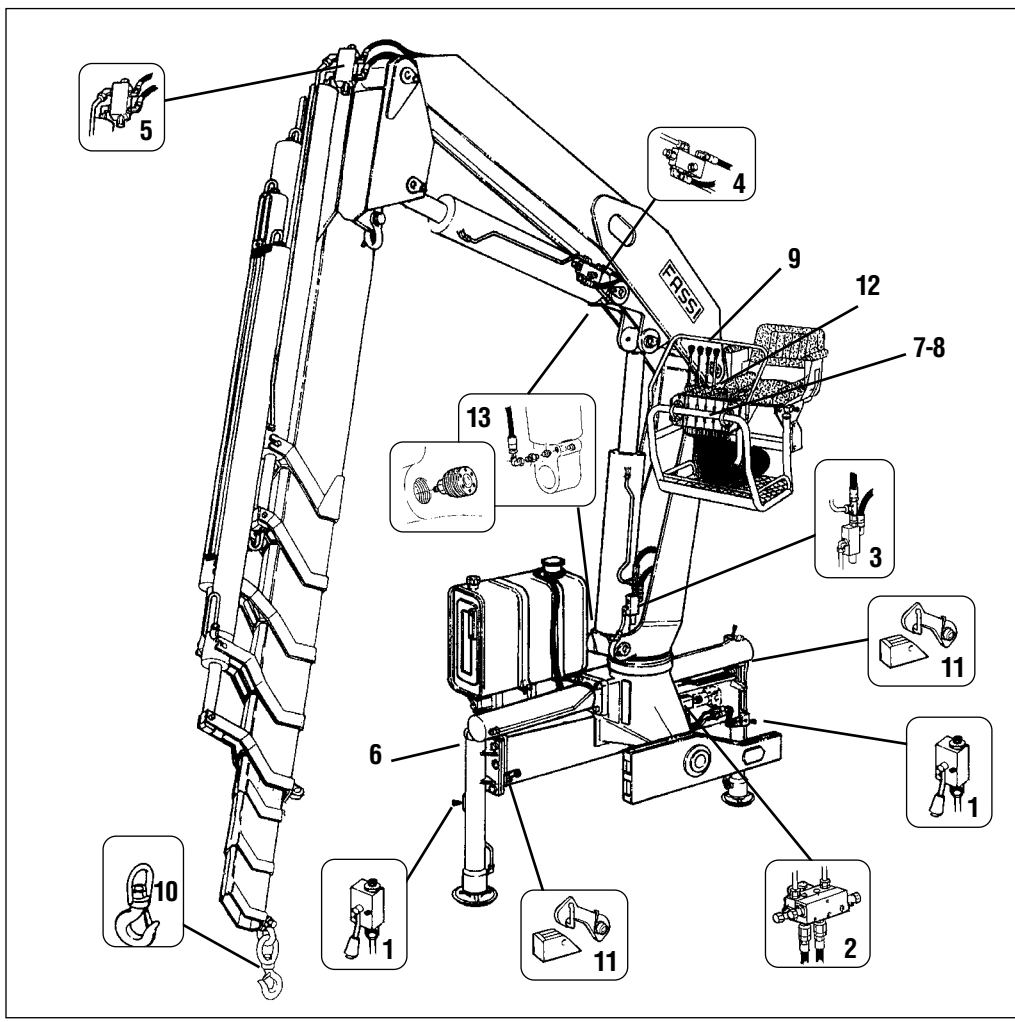

fig. 7
- **Version with ground controls for outriggers and top seat controls for crane (fig. 7)**